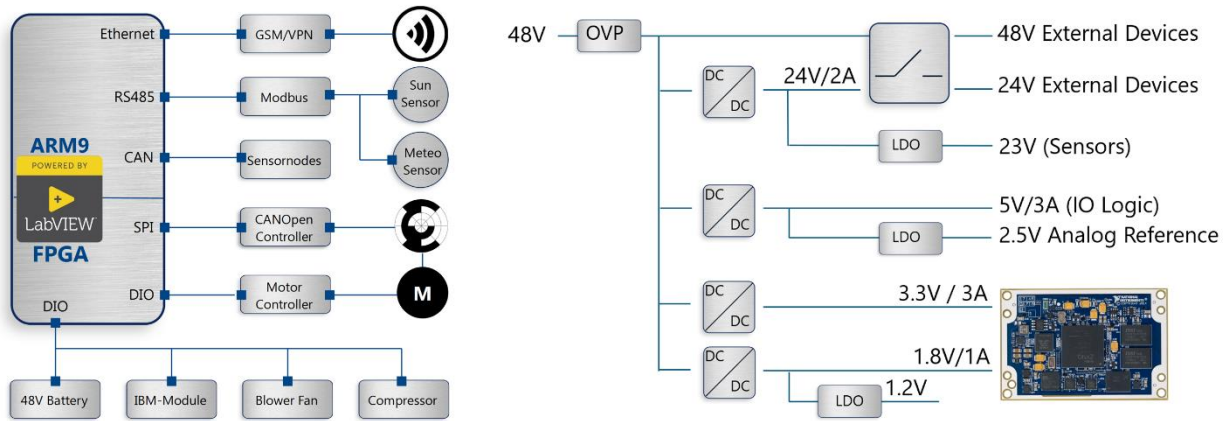
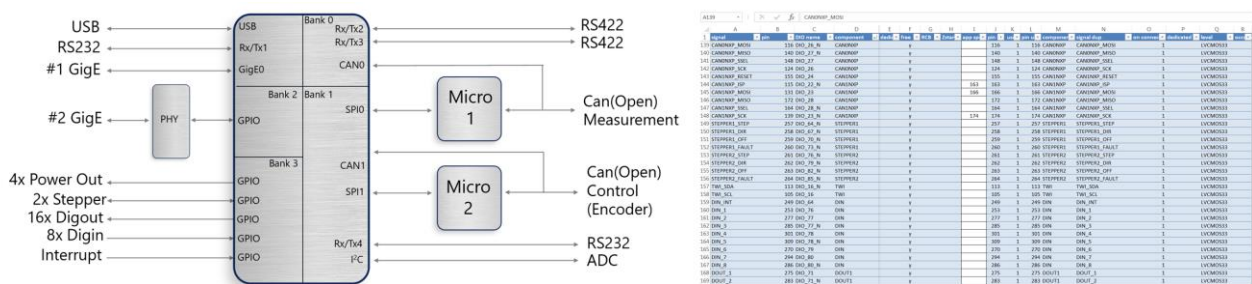

Fig. 2 | The first step is to design the baseboard.
Fig. 3 | The next step is to assign the pins of the SEARAY connector (Fig. 1) to the I/O.
Almost every electronic I/O module available on the market can be connected to the SOM and controlled with LabVIEW (Fig.2, left). The possibilities are manifold: analog and digital I/O (memory mapped), synchronous (SPI, I2C) and asynchronous (UART) serial interfaces or parallel high-speed bus systems. Typical examples of such components are analog to digital converters (ADC).
2. Design of the baseboard (Fig. 2) and assignment of the SOM pins (Fig. 3)